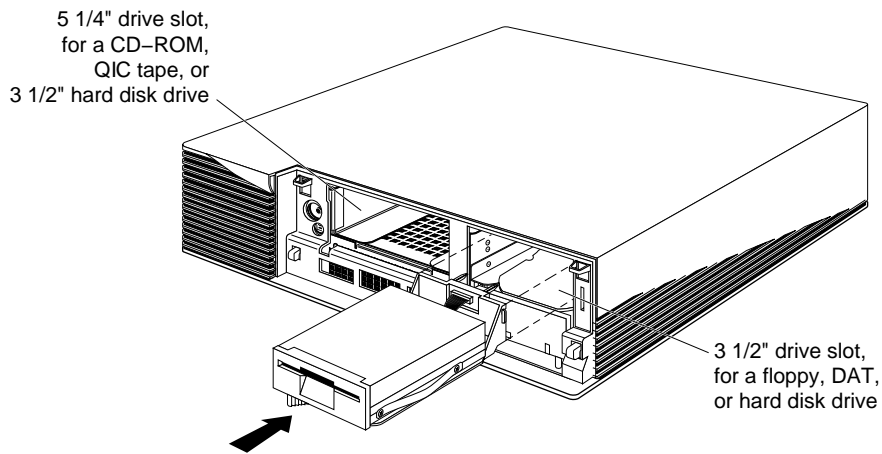

Figure 2-5 Installing an Option Drive
- Install option drives the same way you installed the system disk, as shown in Figure 2-5.